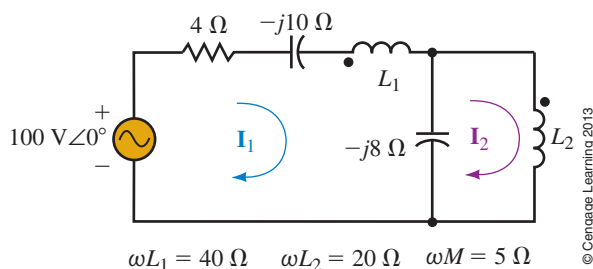

FIGURE 23-83
39. For the circuit of Figure 23-83, write mesh equations.